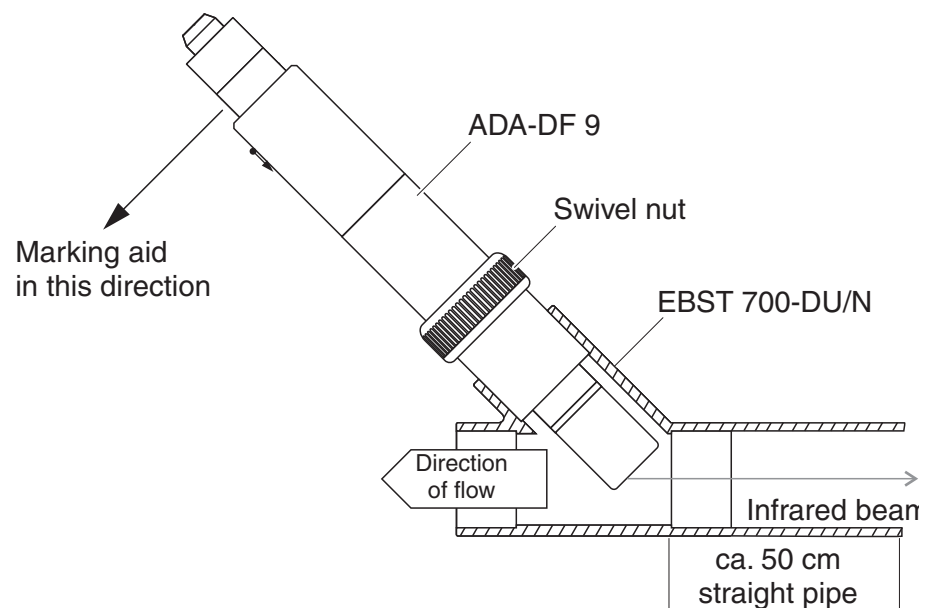

Fig. 3-5 Turbidity sensor in the pipe using EBST 700-DU/N flow-thru adapter
Fig. 3-5 shows the installation using the EBST 700-DU/N flow-thru adapter for installation in a straight pipeline (DN 50). The infrared beam is parallel to the pipeline axis and points in the opposite direction to the direction of flow. The marking on the sensor points towards the pipeline (see Fig. 3-5).
- 3 Install the sensor in the flow-thru adapter with the aid of the ADA-DF 9 adapter (see operating manual of the adapter). To correctly position the coupling ring on the EBST 700-DU/N, loosen it somewhat and line up the marking aid as shown in Fig. 3-5. Then, tighten the coupling ring.